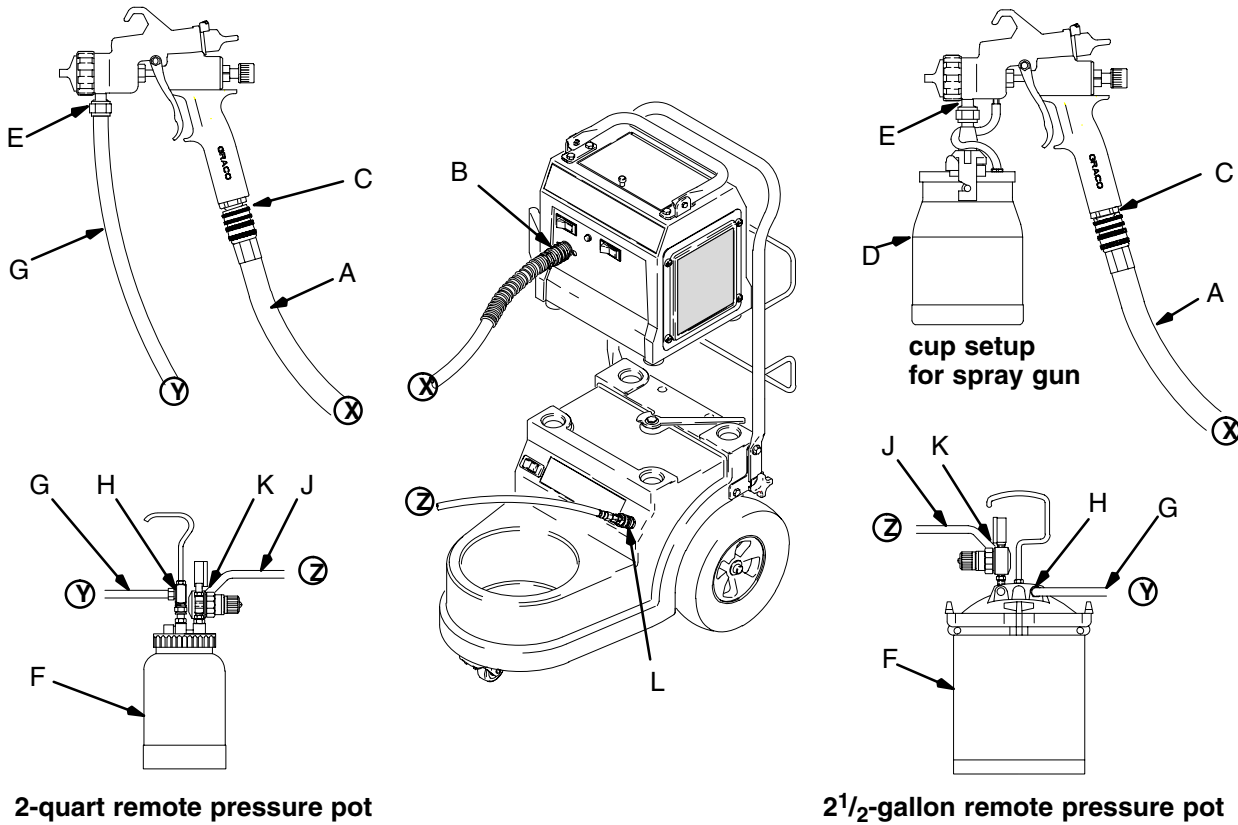

Fig. 12
- Circled letters in Fig. 12 indicate hose line connections.
1. Connect gun air supply hose (A) between turbine air outlet (B) and gun air inlet (C). **DO NOT** use wrench to tighten connections; hand tighten only. See Fig. 12.
2. If using a spray gun cup (D):